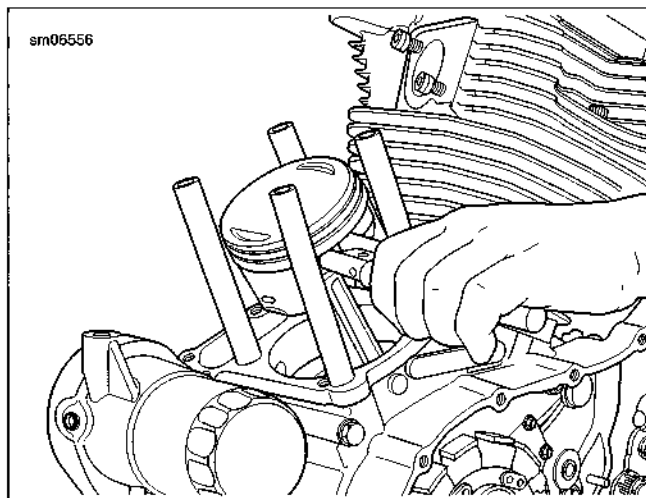

Figure 3-64. Installing Piston Lock Rings
- See Figure 3-64. Install **new** piston pin lock rings with the PISTON PIN LOCK RING REMOVER/INSTALLER (Part No. HD-34623-C). Make sure the ring groove is clean and that the ring is fully seated in the groove with the gap away from the slot at the bottom.